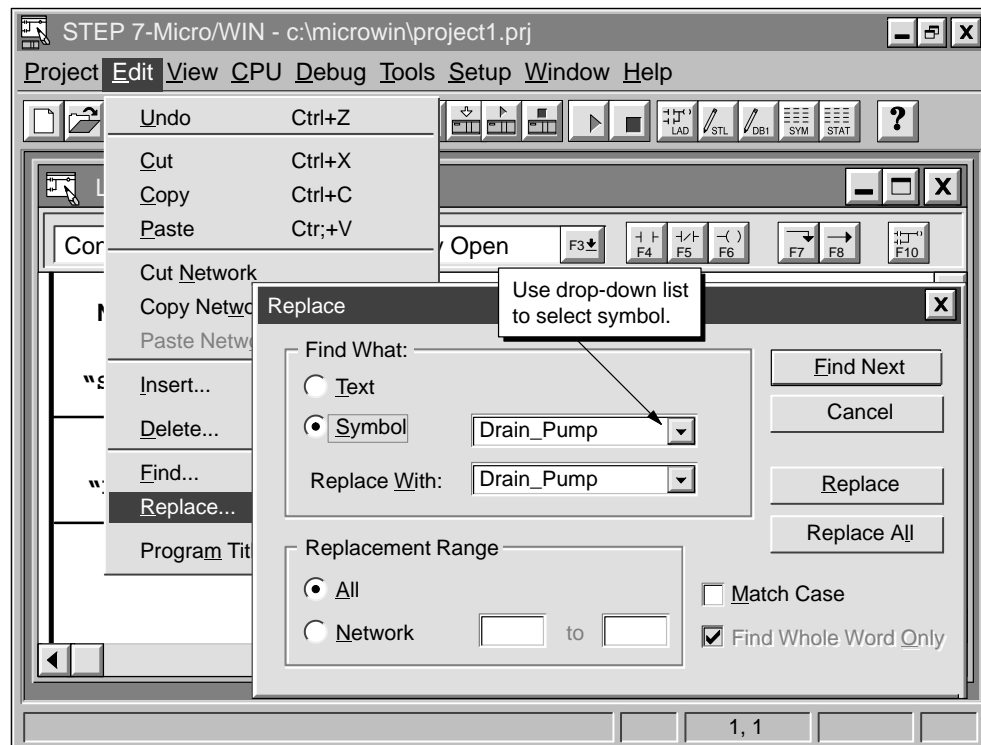

Figure 5-22 Replace Dialog Box
1. Select **Edit ► Replace..** Figure 5-22 shows the Replace dialog box.